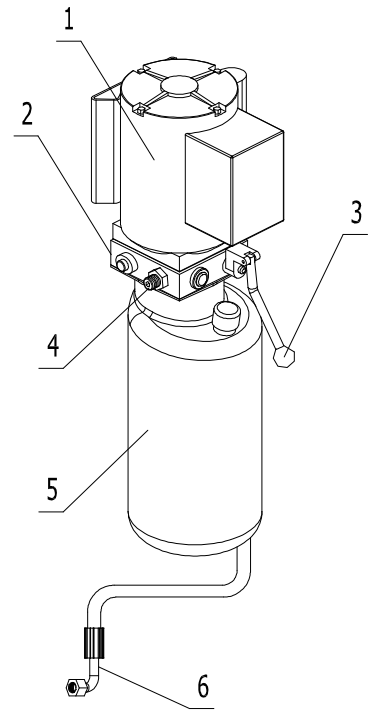

Fig.5
1. Two hydraulic cylinders (5), to lift the vehicle anchored to the post.
2. One hydraulic pump station (see fig.5). Mount on the command post.
1.4 HYDRAULIC POWER UNIT (FIG.5)